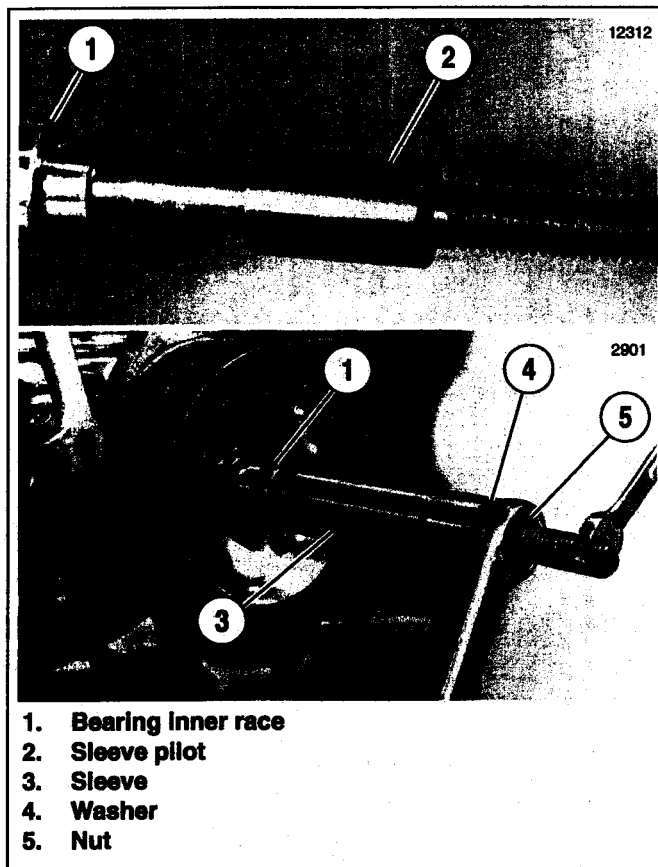

Figure 14. Installing Mainshaft Inner Bearing Race
See Figure 14. The new mainshaft inner bearing race (Part No. 34091-06 from recall parts kit) must be positioned on the mainshaft a precise distance to properly align with bearing outer race in inner primary chaincase.
17. See Figure 14. To install new mainshaft bearing inner race (1) (Part No. 34091-06 from recall parts kit), use those parts of the combination BEARING RACE PULLER AND INSTALLATION TOOL (Part No. HD-34902-B) that are shown in the figure.
- a. Slide bearing inner race (1) onto mainshaft with numbered end of race facing away from main drive gear.
- b. Thread sleeve pilot (2) onto end of mainshaft (left hand thread).
- c. Position sleeve (3) over sleeve pilot and against bearing inner race.
- d. Place washer (4) over threaded portion of sleeve pilot and install nut (5).